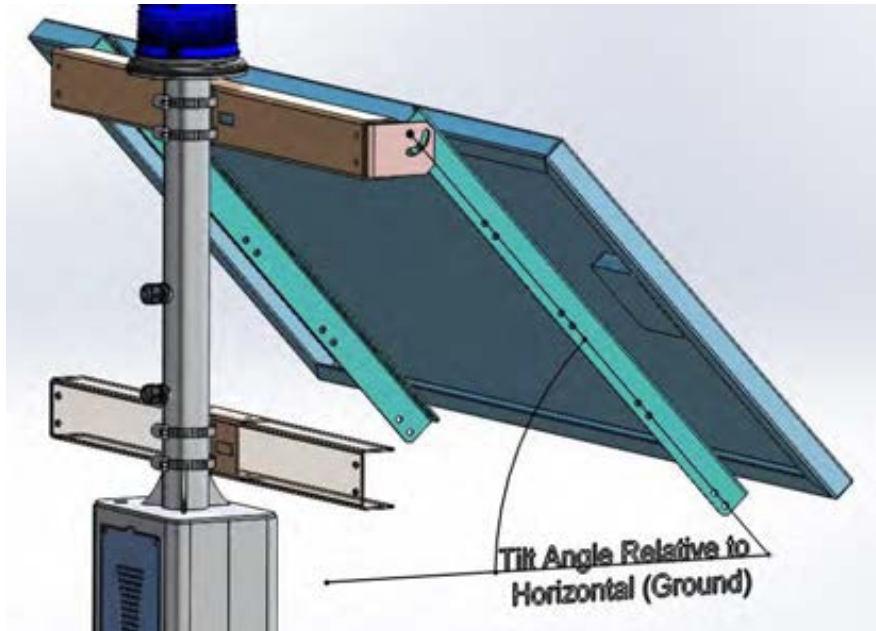

Figure 9. Panel tilt angle reference
8. **Refer to Appendix A** for correct tilt angle according to geographic location. To adjust the tilt angle loosen the bolts holding the mounting rails to the clips and adjust the tilt of the panel as shown in **Figure 9**.